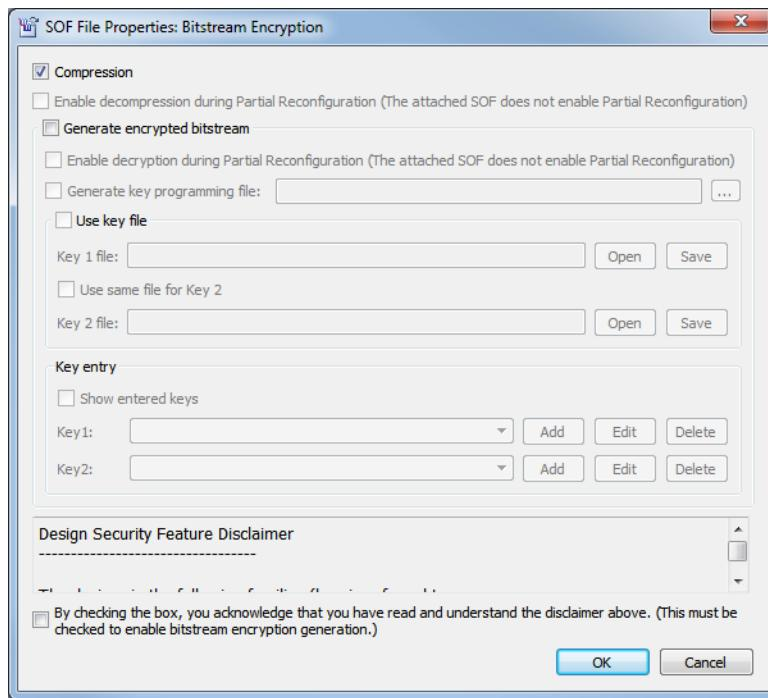

Figure 11. Enabling file compression.
6. Click and highlight the newly added .sof file in the list, then select Properties. You should see the window shown in Figure 11. Enable file compression by ticking the checkbox as shown, then press OK.